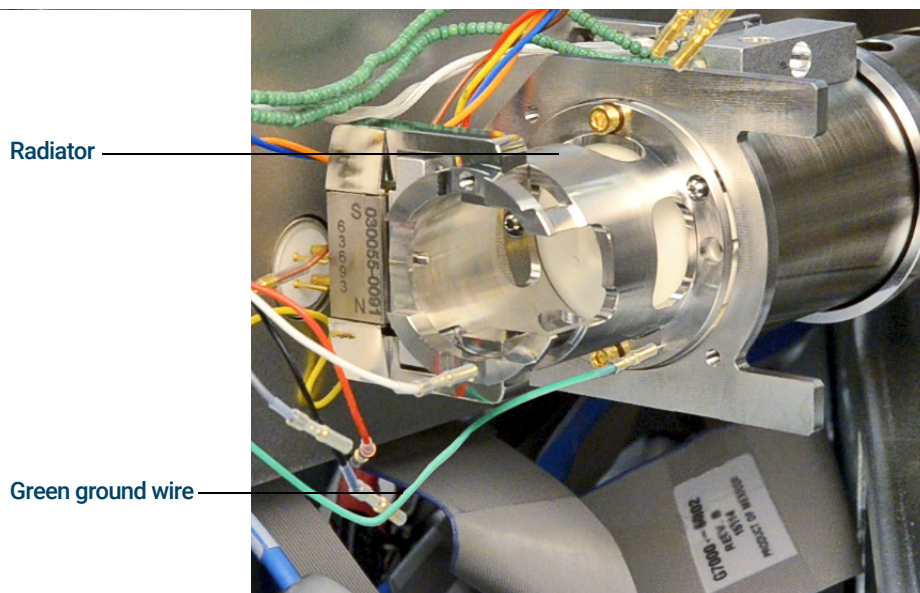

Figure 69 CI Source radiator
- 2 Connect the green ground wire to the radiator. (See **Figure 69**.)